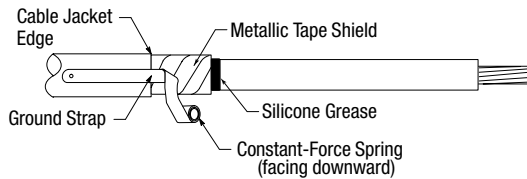

Figure 3
2. Install ground strap assembly (does not apply to UniShield® cable) (Figure 3).